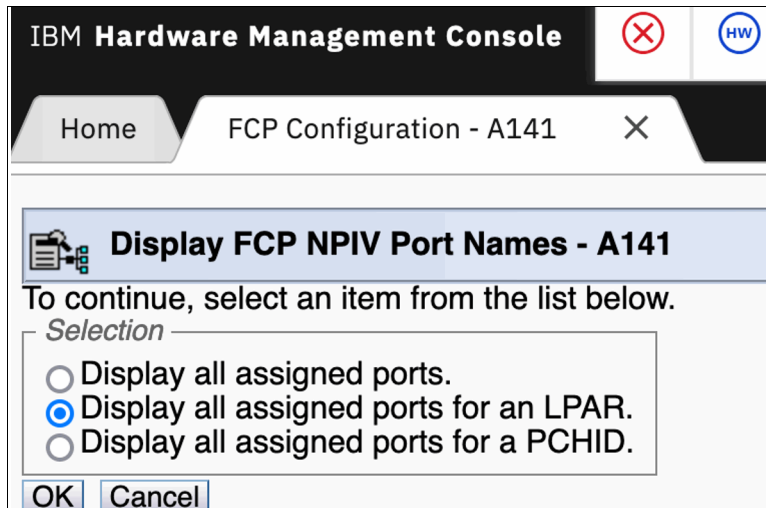

Figure 30 Set the option to Display all assigned ports for an LPAR
5. The next menu opens. Set the option to **Display all assigned ports for an LPAR** and click **OK**. See Figure 30.